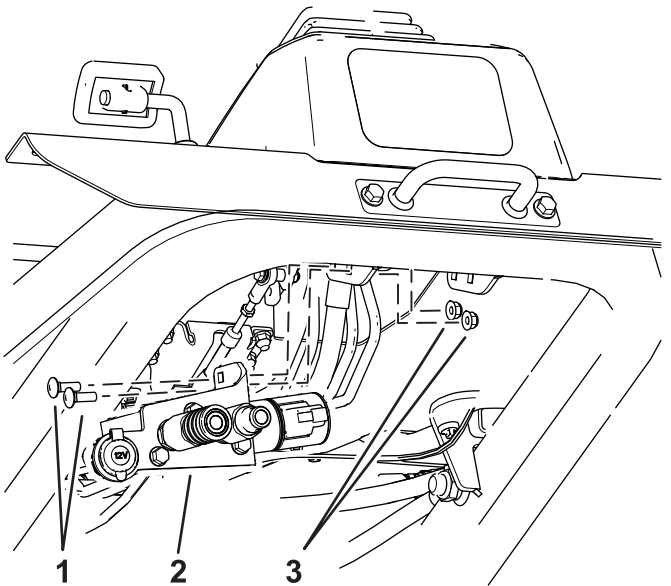

Figure 2
4. Secure the bracket with the manifold to the machine with 2 carriage bolts (5/16 x 1 inch) and 2 locknuts (5/16 inch) as shown in Figure 2.